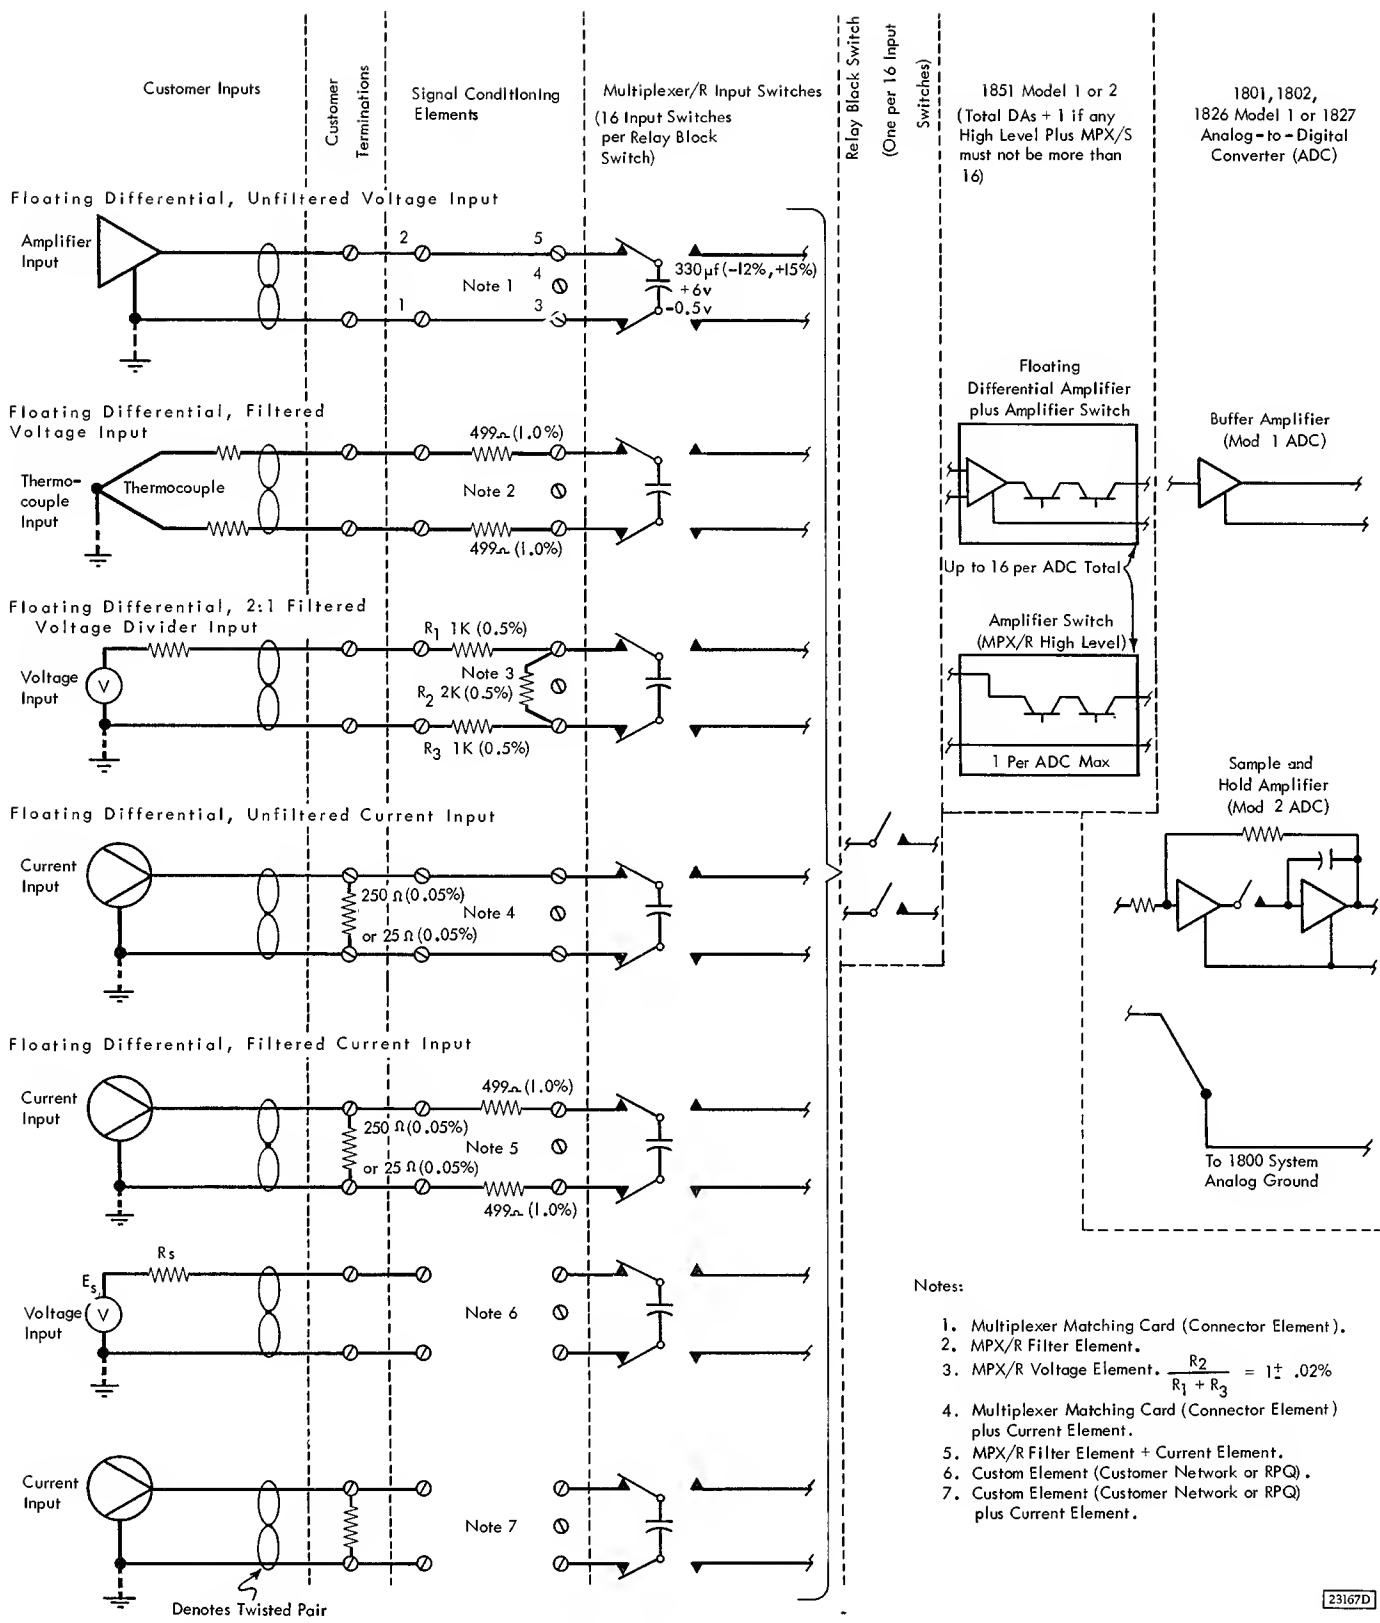

Figure 37. Relay Multiplexer Inputs (MPX/R)
1. Input Type: Floating differential, unfiltered voltage input using IBM Connector Element (Figure 37).
2. Input Type: Floating differential, filtered voltage input using IBM Filter Element (Figure 37).
3. Input Type: Floating differential, 2:1 filtered voltage divider input using IBM Voltage Element. (See Figure 37.)
4. Input Type: Floating differential, unfiltered current input using IBM Connector and Current Elements. (See Figure 37.)
5. Input Type: Floating differential, filtered current input using IBM Filter and Current Elements. (See Figure 37.)